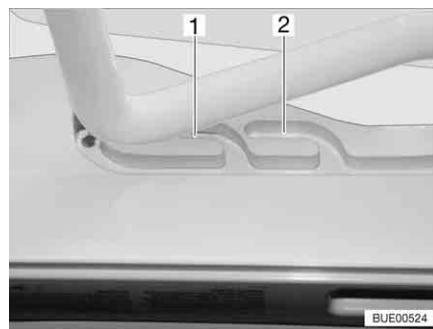
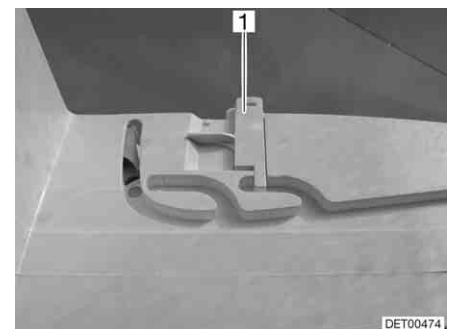

Fig. 62 Heki skylight in ventilation position
Fig. 63 Ventilation position locking mechanism
The Heki skylight can be put in two ventilation positions: Bad weather position (Fig. 62,1) and central position (Fig. 62,2). Depending on the model, the skylight can be locked in the central position with both left and right latches (Fig. 63,1) on the skylight frame.
- Push the bar slightly upwards and into the selected guide (Fig. 62,1 or 2) and lock if necessary.